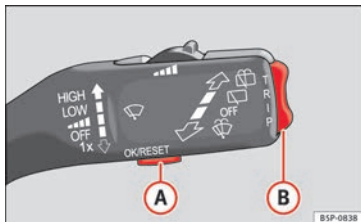

Fig. 36 Windscreen wiper lever: control buttons.
- To change from one memory to another, briefly press button **A** » Fig. 36 » page 50 on the windscreen wiper lever or the **OK** button on the multifunction
The following data can be viewed on the multifunction display using rocker switch **B** » Fig. 36 » page 50 on the windscreen wiper